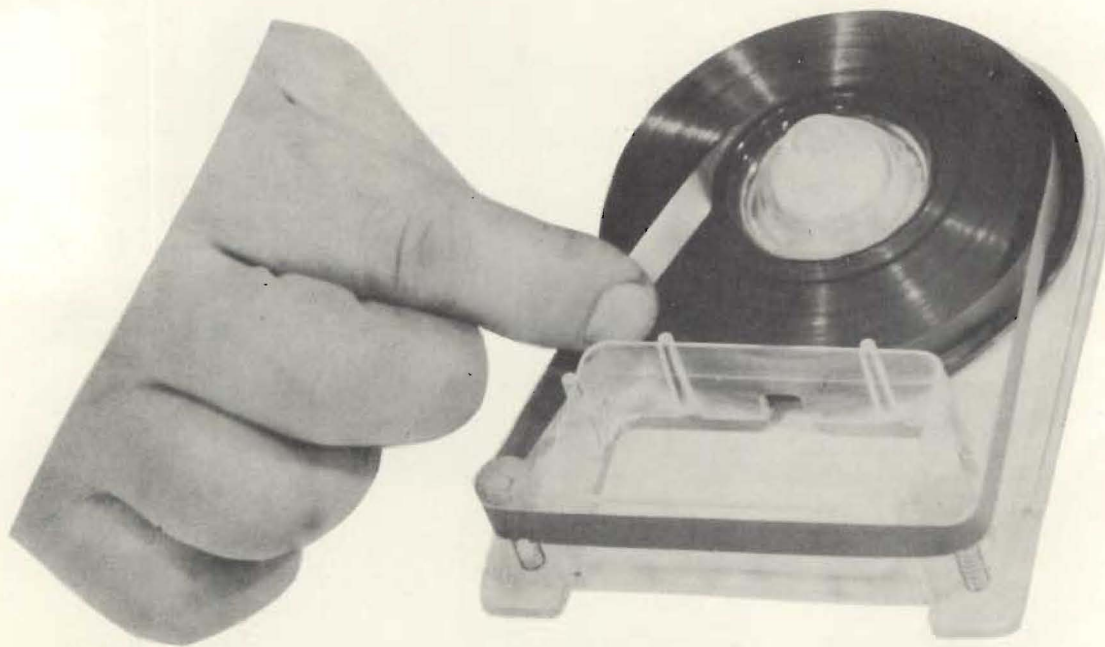

Figure 3
7. Stop Recorder and remove Magazine. Place on flat surface and gently pull tape from Center of Magazine until Loop again is taut around Front of Magazine. (See Figure 3) Important: Make sure that Nylon Lifters are in proper position and that Tape is above arms on both Lifters. Springs must be under Lifters on each Post. (See Figure 1 for correct assembly).
- L. Pull Tape gently from Center of Magazine as in I-A-7 and complete as in I-A-8 (See Figure 3).